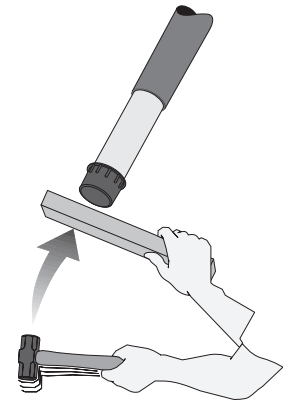

FIGURE 2 - Assembling the legs
- Place a piece of wood over the leg base cap and strike the wood with a hammer until the leg is fully seated in the housing. See Figure 2.